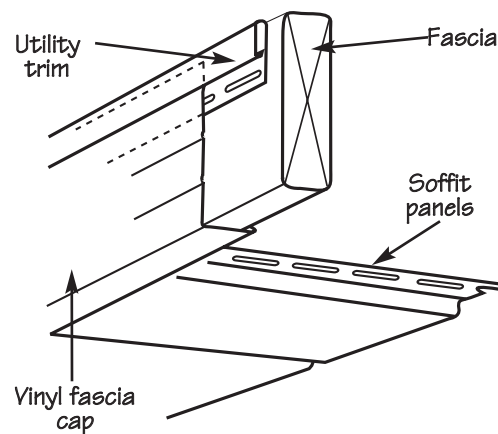

Figure 66.
3. Insert the panel into the channel on the wall, then into the channel at the fascia board (Fig. 66).